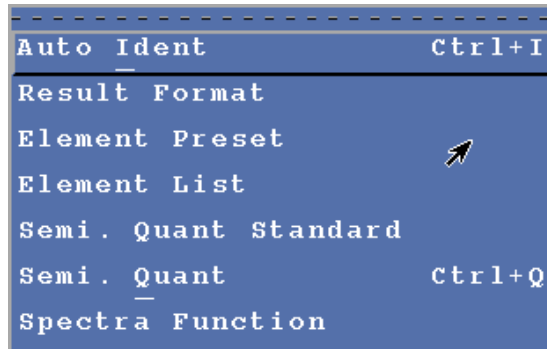

Fig. 20 Analysis menu
- ◆ Select **Analysis** from the **Operation** menu in the EDS Home Window. The **Analysis** menu opens as shown in Fig. 20.